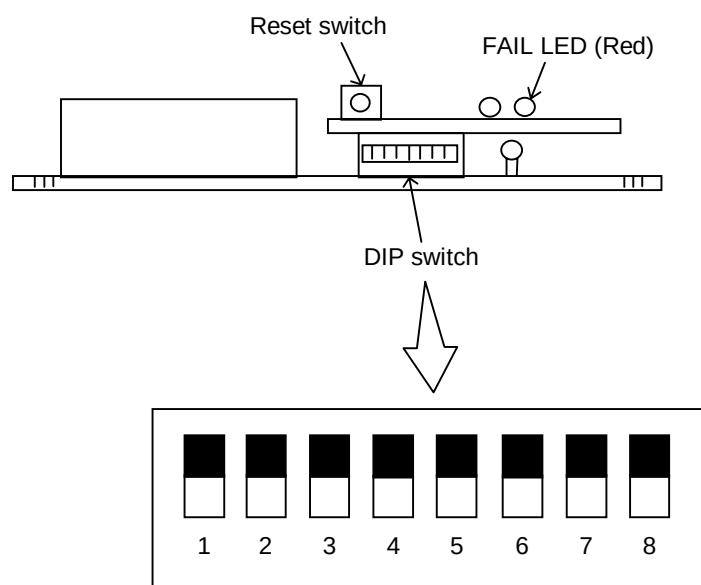

Figure 14.3 Replacing LAN ASSY (3)
(1) Procedure
- ① Open side cover 1 side cover 2. (See MK-REP0160.)
- ② Disconnect the cable (RS232C).
- ③ Set No.8 DIP switch of the corresponding CTL ASSY.
- ④ Push the reset switch of the corresponding CTL ASSY.
- ⑤ Wait ten seconds, check to see that the FAIL LED on the CTL ASSY comes on and it enters the blocked state. (See Figure 14.3.)
- ⑥ Open the right and left levers to the direction of arrows (→) at the same time then remove the CTL ASSY.
- ⑦ Remove the LAN ASSY by pulling it upward. Then mount a new LAN ASSY by aligning its mounting holes with the card spacers and pressing the LAN ASSY against the spacers until it is latched with clicks.
- ⑧ Set No.8 of DIP switch to as shown.
- ⑨ Reinstall the CTL ASSY.
- ⑩ Close the side covers 1 and 2. (See MK-REP0160.)